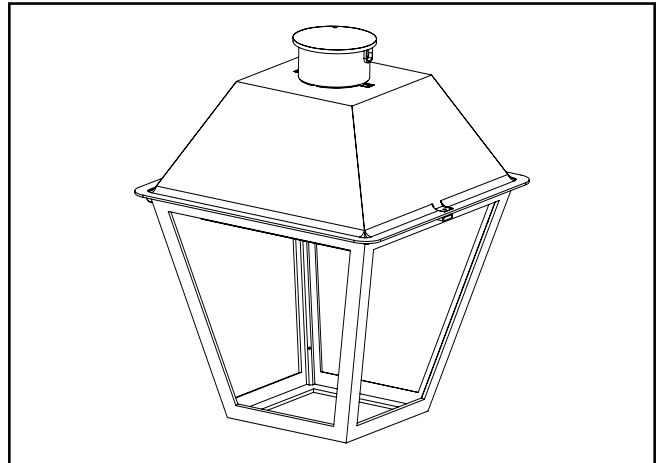

Figure 1.
Installation (Figure 1 - Figure 3)
1. Lift the luminaire from the carton then place it on a flat surface with the bottom lens pointing downward (Figure 1). If the luminaire comes without lenses, avoid touching the LED lens on the inside during installation and handling.